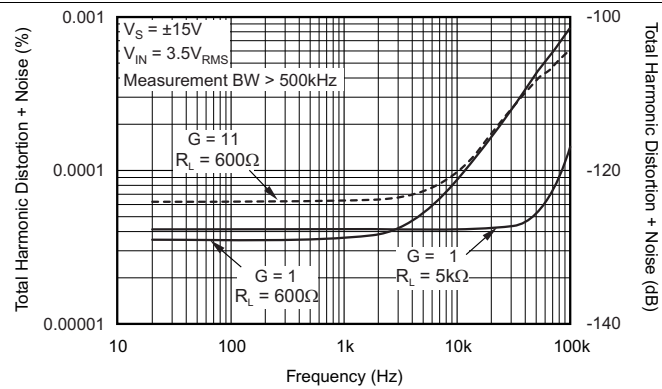

Figure 45. THD+N Ratio vs Frequency
(1) For measurement bandwidth, see Figure 43, Figure 44, and Figure 45.